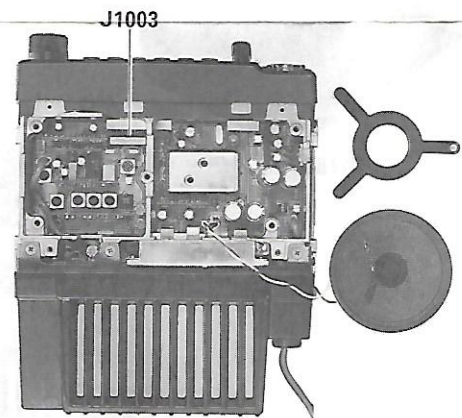

Figure 2
- ❑ Referring to Figure 2, locate unused 12-pin connector J1003 on the main unit near the control head (front panel).